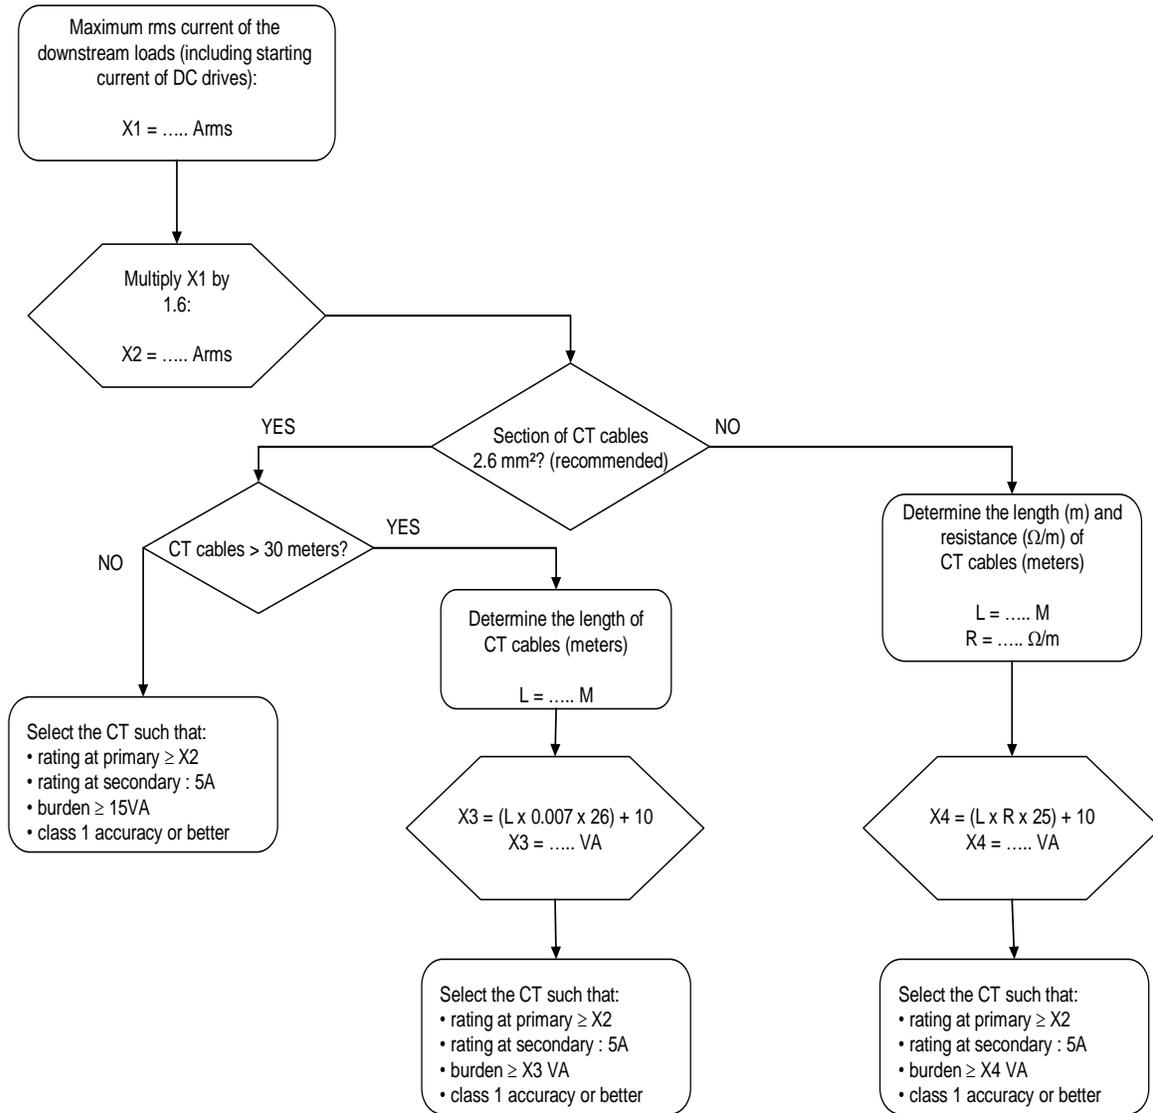

Figure 7: Flow chart for CT determination
- 15 VA burden for up to 30 meters with 2.5 mm² cable. For longer cables lengths, refer to Figure 7. If the CT is shared with other loads, the proper VA burden should be used accordingly.